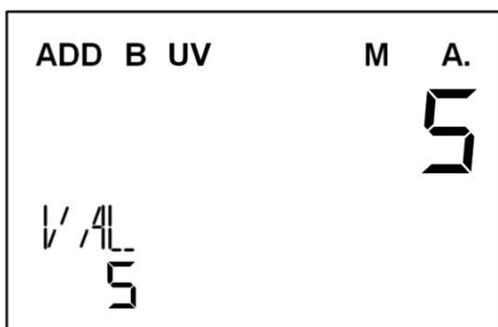
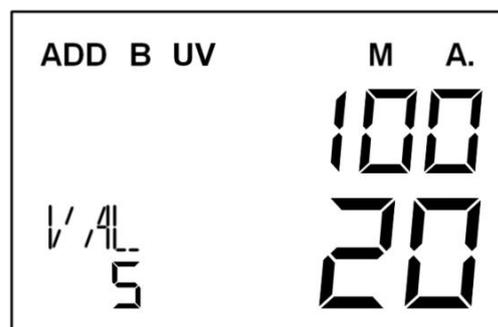

Figure 45
Figure 46
3) When \$1 are counted, take out the banknotes from the stacker, and then press the "Denom." button to adjust the denomination to "VAL 5", as shown in Figure 45 below. Then count \$5 and the main screen will be as shown in Figure 46 below.